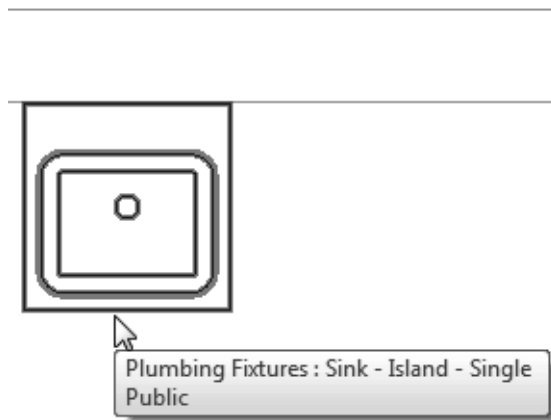

Figure 2–68
2. Which of the following commands imports a component (such as the sink shown in Figure 2–68) that is not available in your project?